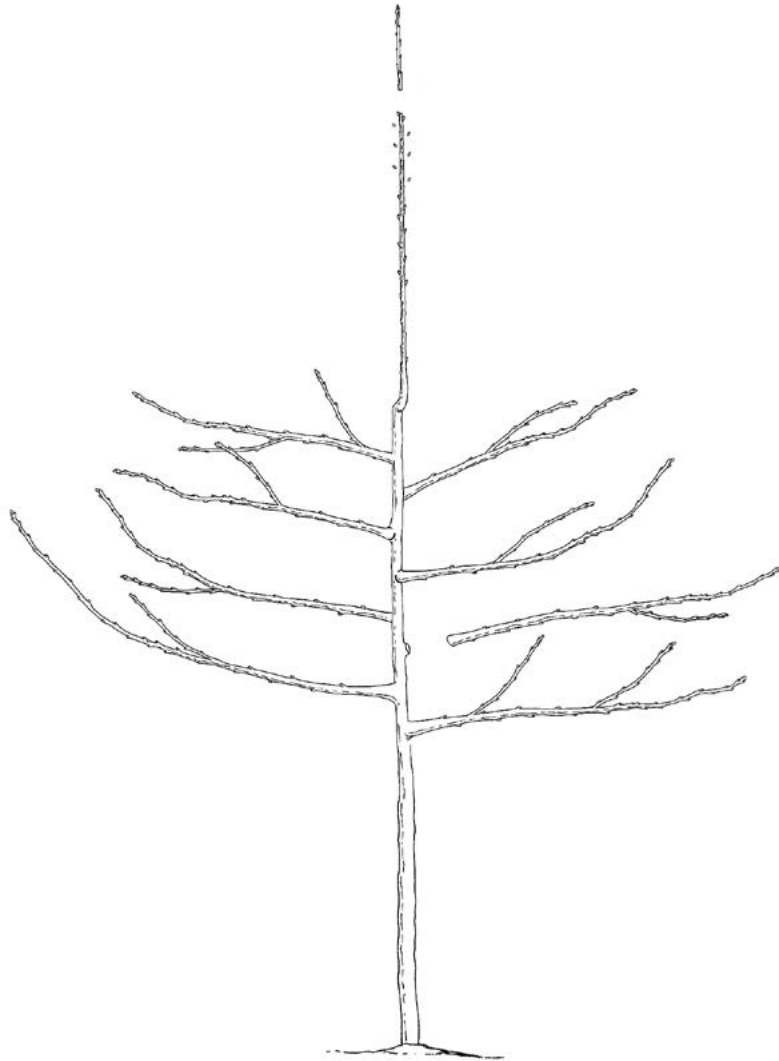

Figure 72
- Treat the leader as in the establishment year. Retain the top two buds and remove the next five to six buds (Figure 72).
- Encourage branches to grow throughout the entire length of the trunk in a spiral rather than allowing distinct whorls to develop (Figure 72).
- Promote adequate light penetration by thinning closely spaced branches (Figure 72)